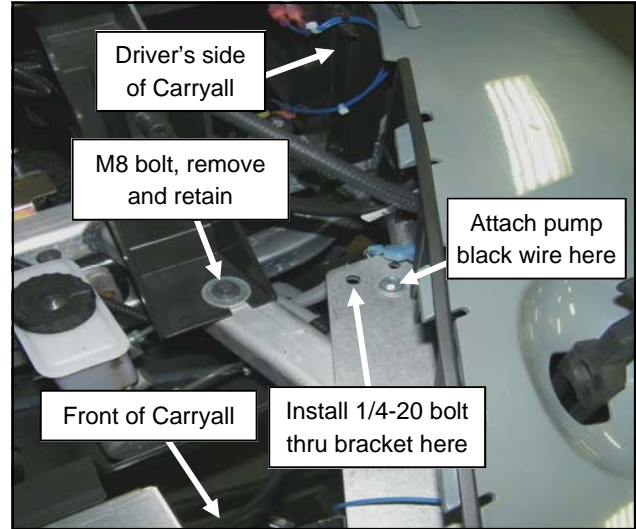

Fig. 1.2
- 1.2 Open the front hood. Remove and retain the M8 bolt and large washer from the Carryall frame. See figure 1.2.